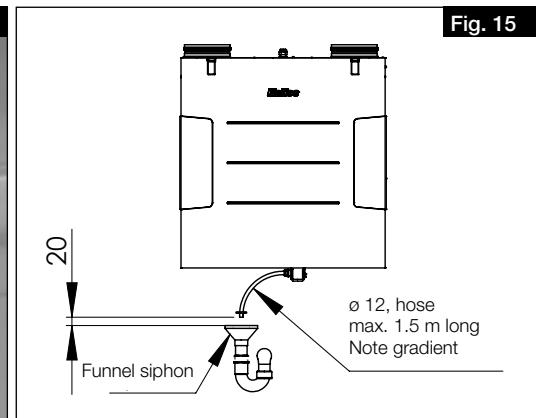

Fig. 15
- > The condensate hose must end 20 mm above the open drain or possible water level (see Fig. 15).
- > The condensate hose from the ball siphon must have a downward gradient, openly dripping into a funnel siphon and must not be discharged into a closed system (see Fig. 15).